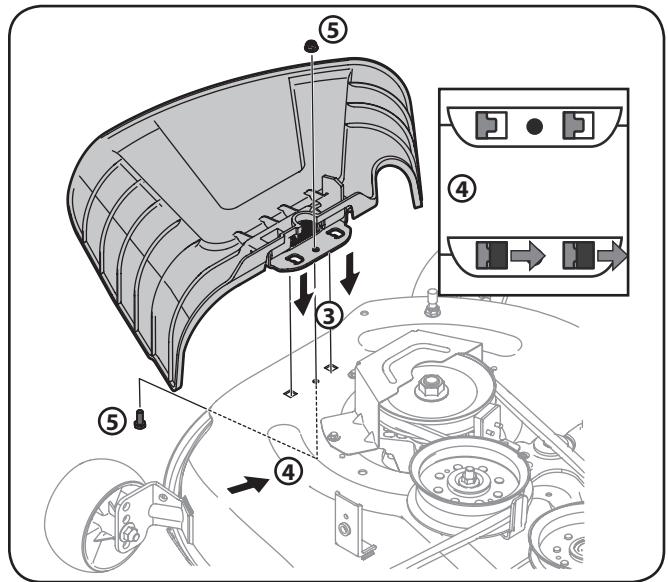

Figure 3-5
- Place the chute deflector on the deck, be sure to insert the tabs on the chute deflector into the holes on the deck. See Figure 3-5.
- When the tabs are installed in the deck, slide the chute deflector toward the rear of the tractor until the bolt hole in the chute deflector aligns with the hole in the deck. See Figure 3-5.
- Secure the chute deflector in place with the flange lock nut and hex screw removed in step 2. Tighten to 102-124 in-lbs. See Figure 3-5.